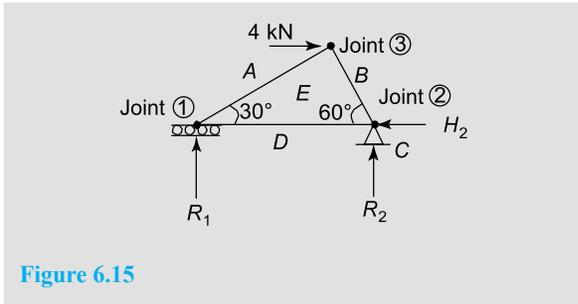

Figure 6.15
**Problem 6.** Determine the internal forces in the members of the truss of Figure 6.15 due to the externally applied horizontal force of 4 kN at the joint  $ABE$ .